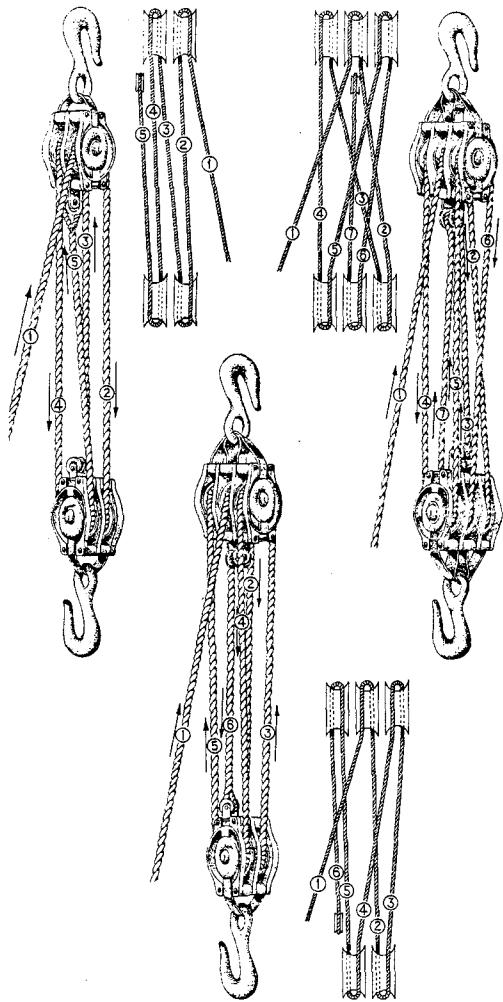

Fig. 3—Reeving Blocks (Preferred Methods)
6.03 Fig. 3 shows preferred methods for reeving a pair of tackle blocks. The numbers are